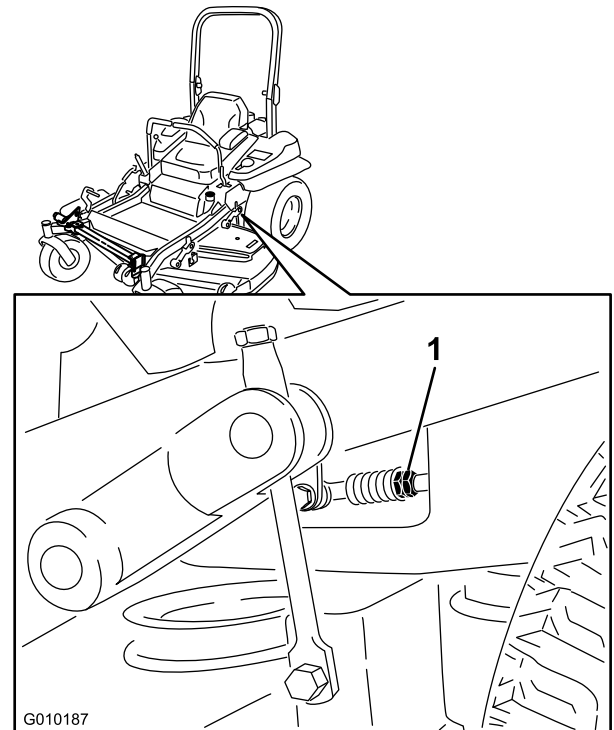

Figure 82
8. Adjust the pump-control rod lengths by rotating the double nuts on the rod in the appropriate direction until the wheels slightly creep in reverse (Figure 82).